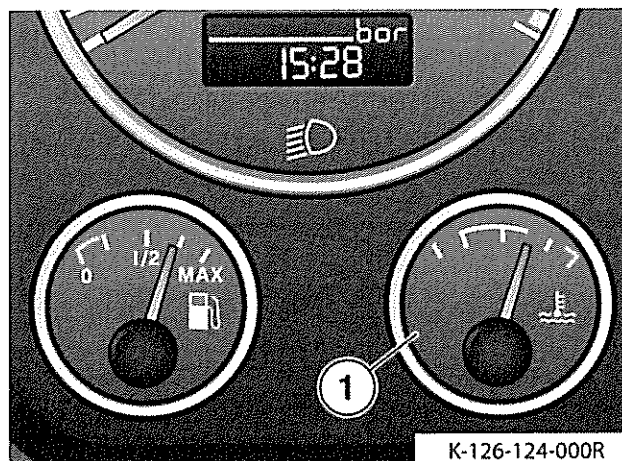

Fig 41 Coolant temperature
156 Refer to Fig 41. Check the coolant temperature shown on the temperature gauge (1).